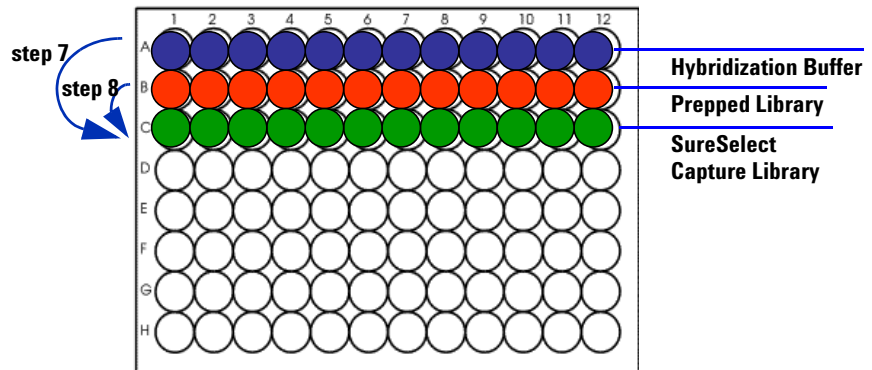

Figure 7 SureSelect Capture Library, or “Baits”, shown in Green
- f** For multiple samples, use a multi-channel pipette to load the Capture Library samples into the “C” row in the PCR plate (see Figure 7 for positions).